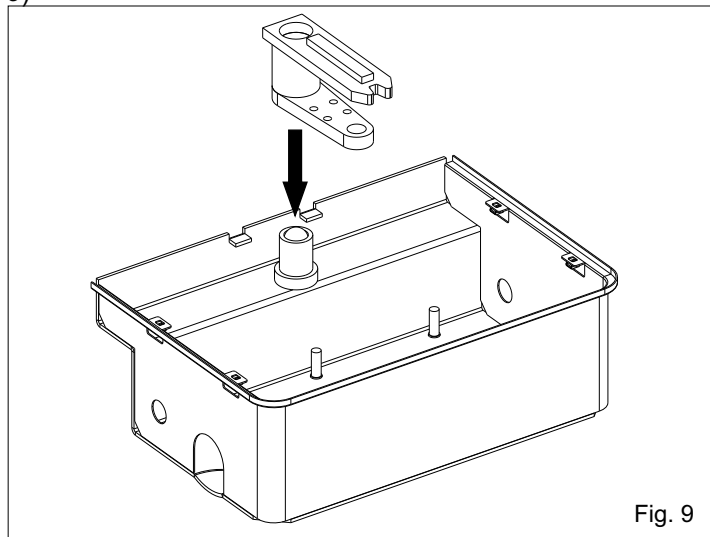
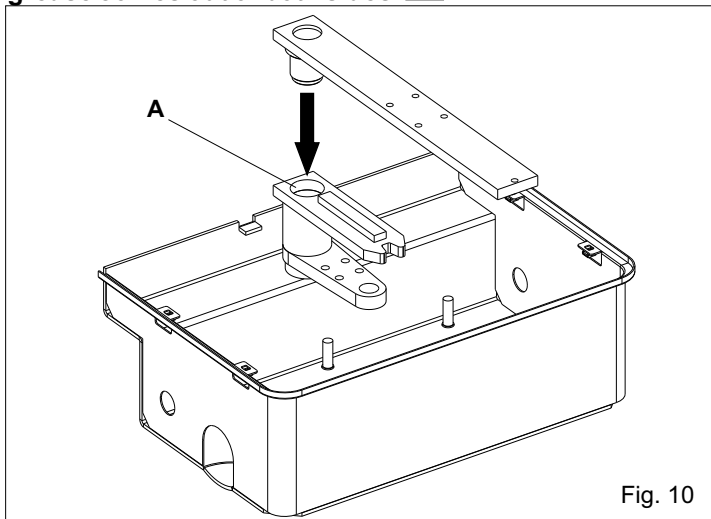

Fig. 9
Fig. 10
2.5. Insert the handle bar device into the perforated shaft (Fig. 9)
2.6. Grease plentifully the hole A and insert the leaf device (Fig. 10)
N.B.: During the insertion of the units lubricate them with the supplied grease (Fig.8, Fig.9, Fig.10).